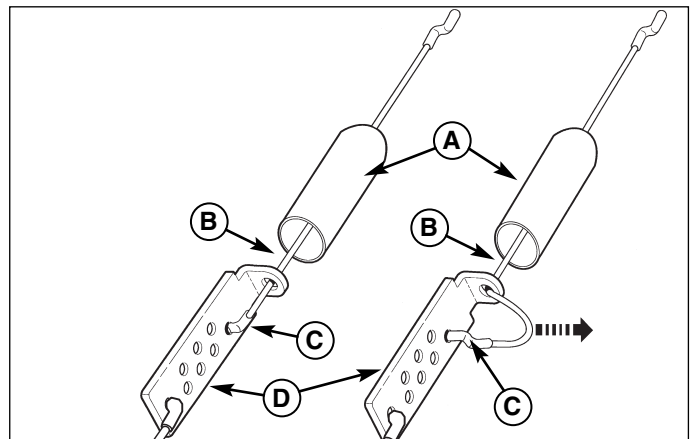

Figure 18. Traction Drive Cable Adjustment
1. Remove the Z-hook (C, Figure 18) from the auger drive lever (A).
3. Pull the auger control cable (B) through the eyehole in the cable adjustment bracket (D) as shown by the arrow in Figure 18. This will create enough slack to allow the Z-hook to be easily removed.
4. Install the Z-hook (C) into the next available adjustment hole in the cable adjustment bracket (D). This is the adjustment hole located one notch down from where the Z-hook (C) was previously attached.
5. Pull the auger control cable (B) back through the eyehole of the cable adjustment bracket (D) until all the slack is taken out of the auger control cable (B).
6. Slide the cable boot (A) back down over the cable adjustment bracket (D).
7. Install the Z-hook (B, Figure 18) to the auger drive lever (A).